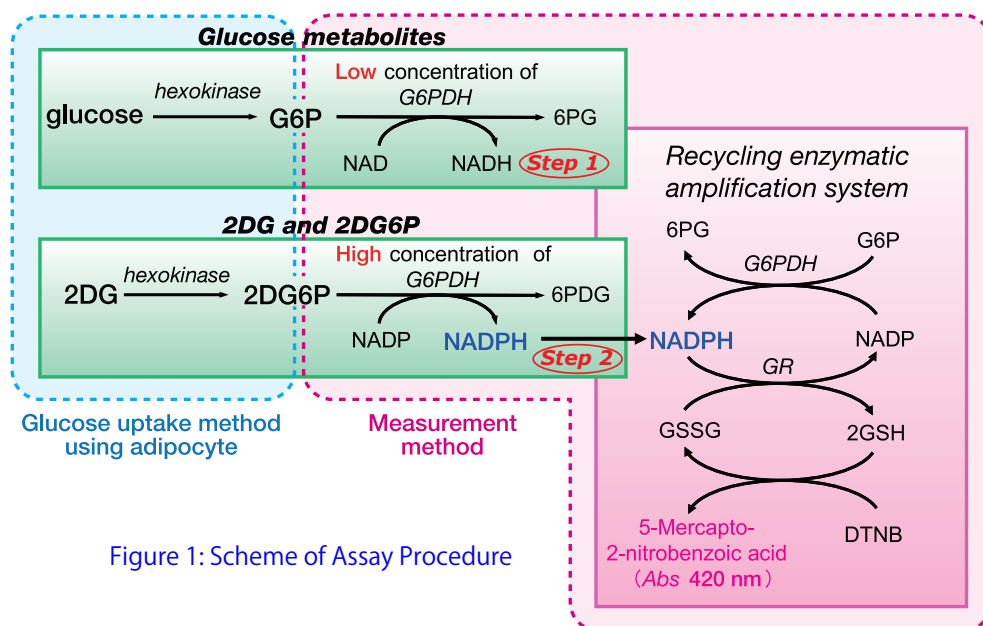

Figure 1: Scheme of Assay Procedure
2. Elimination of NAD(P)H with HCl, which removes endogenous NAD(P)H as well as NADH produced in Step 1 in Figure 1.
4. Elimination of NAD(P)+ and G6PDH that remains after Step 2 in Figure 1 with NaOH.